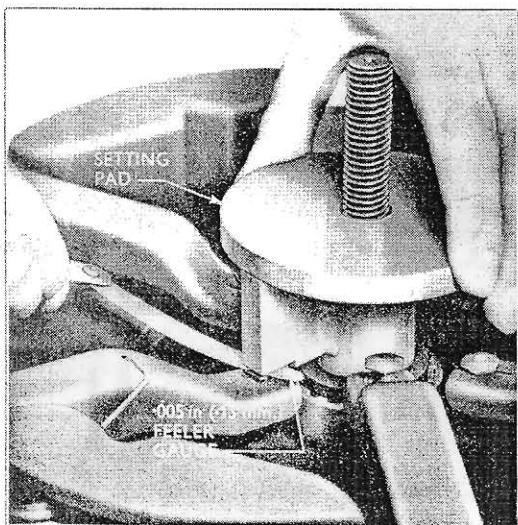

Fig. 8
4. Hold the setting pad firmly against the power take-off disc centralising collar and rotate the pad until the appropriate step is immediately above one of the clutch release lever adjusting screws. Turn the adjusting screw until a .005 in. (.13 mm.) feeler gauge can just be inserted between the top of the screw and the underside of the appropriate step on the setting pad. (See Fig. 8.) Repeat the operation on each of the five remaining release levers.